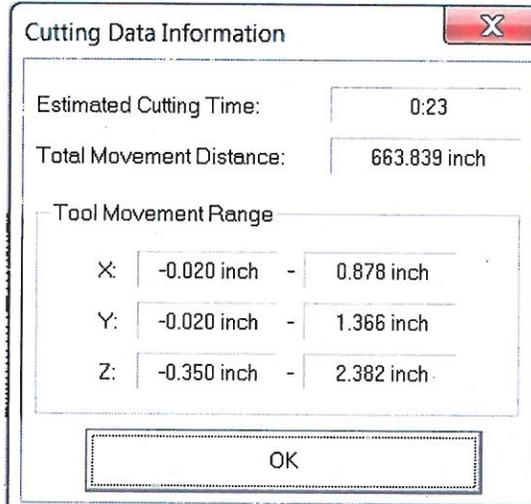

Figure 15: Cutting Data Information
11. Go to **Simulation- Estimate Cutting Time** to see the time needed to mill the model. Press **OK** to complete this section (Figure 15).